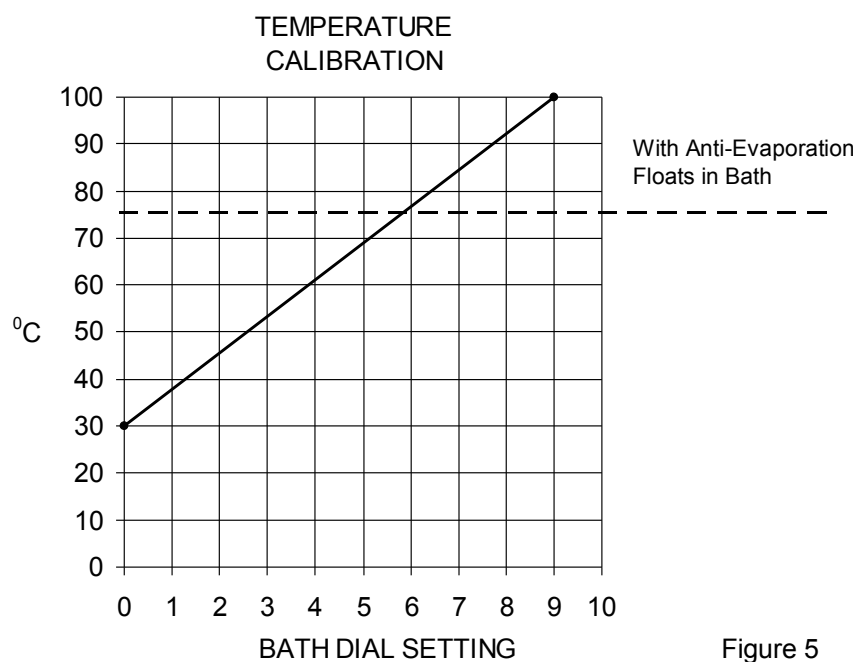

Figure 5
3. **Thermostat Control** - Adjust the bath thermostat to the desired temperature, reference Figure 5 for approximate dial settings versus temperature.